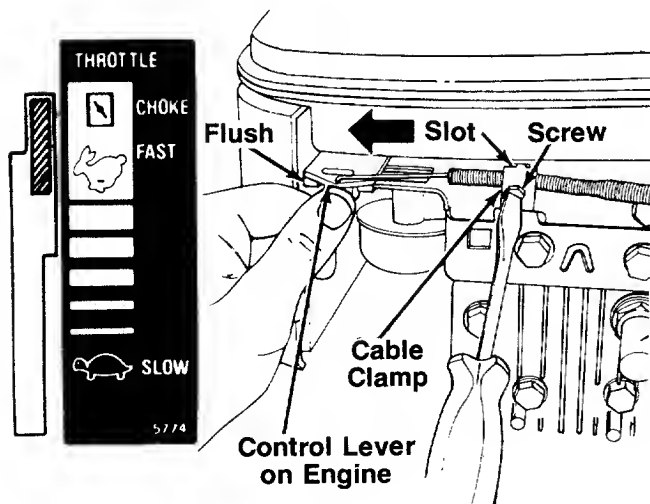

FIGURE 6D.—Models 076R, 079R, 086R & 089R
1. Push the throttle control lever on the handle all the way forward to CHOKE position. See figure 6D.
2. The throttle control cable is attached to the upper handle. Route the throttle control cable under the lower handle and inside the handle mounting bracket. Hook the "Z" end of the throttle control cable into the hole in the control lever on the engine. See figure 6D.
3. Using a 5/16" wrench or nutdriver, remove the screw on the cable clamp shown in figure 6D. Slip the control cable under the clamp. Replace the screw (cable should be above the screw), but do not tighten (cable must still move freely beneath the clamp). Make certain the tab on the cable clamp is seated into the slot on the engine.
4. Push the control lever on the engine as far toward the outside of the engine as it will go. The edge of the control lever should be flush with the bracket on the engine. See figure 6D. Hold the control lever in this position as you tighten the screw on the cable clamp to secure the throttle cable.